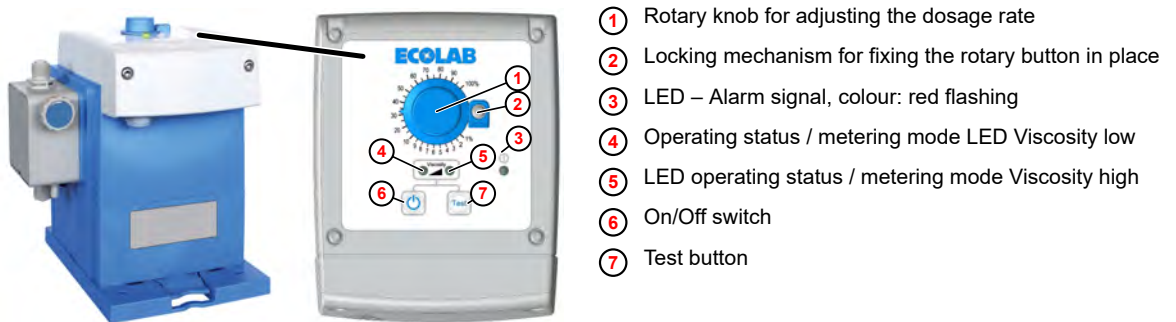

Fig. 15: Control panel EcoPro
1. Use the On/Off button  (Fig. 15 , ⑥) to switch the pump on and off.
*Depending on the selected metering mode, either the left LED (Fig. 15 , ④ , Viscosity low) or the right LED (Fig. 15 , ⑤ , Viscosity high) lights or flashes.